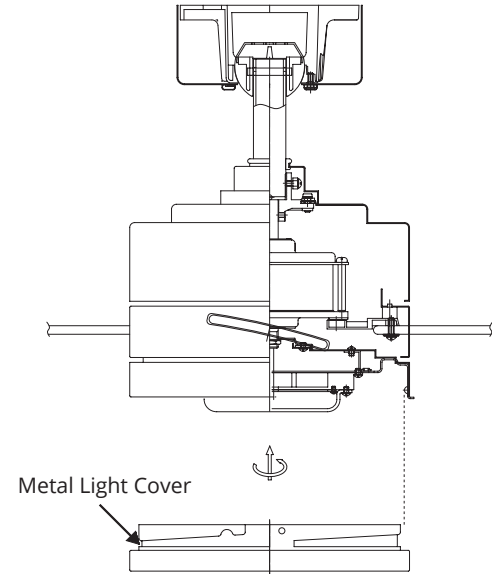

FIG. 22
5. If installing the optional metal light cover, make sure it is securely tightened (FIG. 22).
NOTE: Add metal light cover if you do not need lighting function or prefer a different aesthetic (FIG. 22).